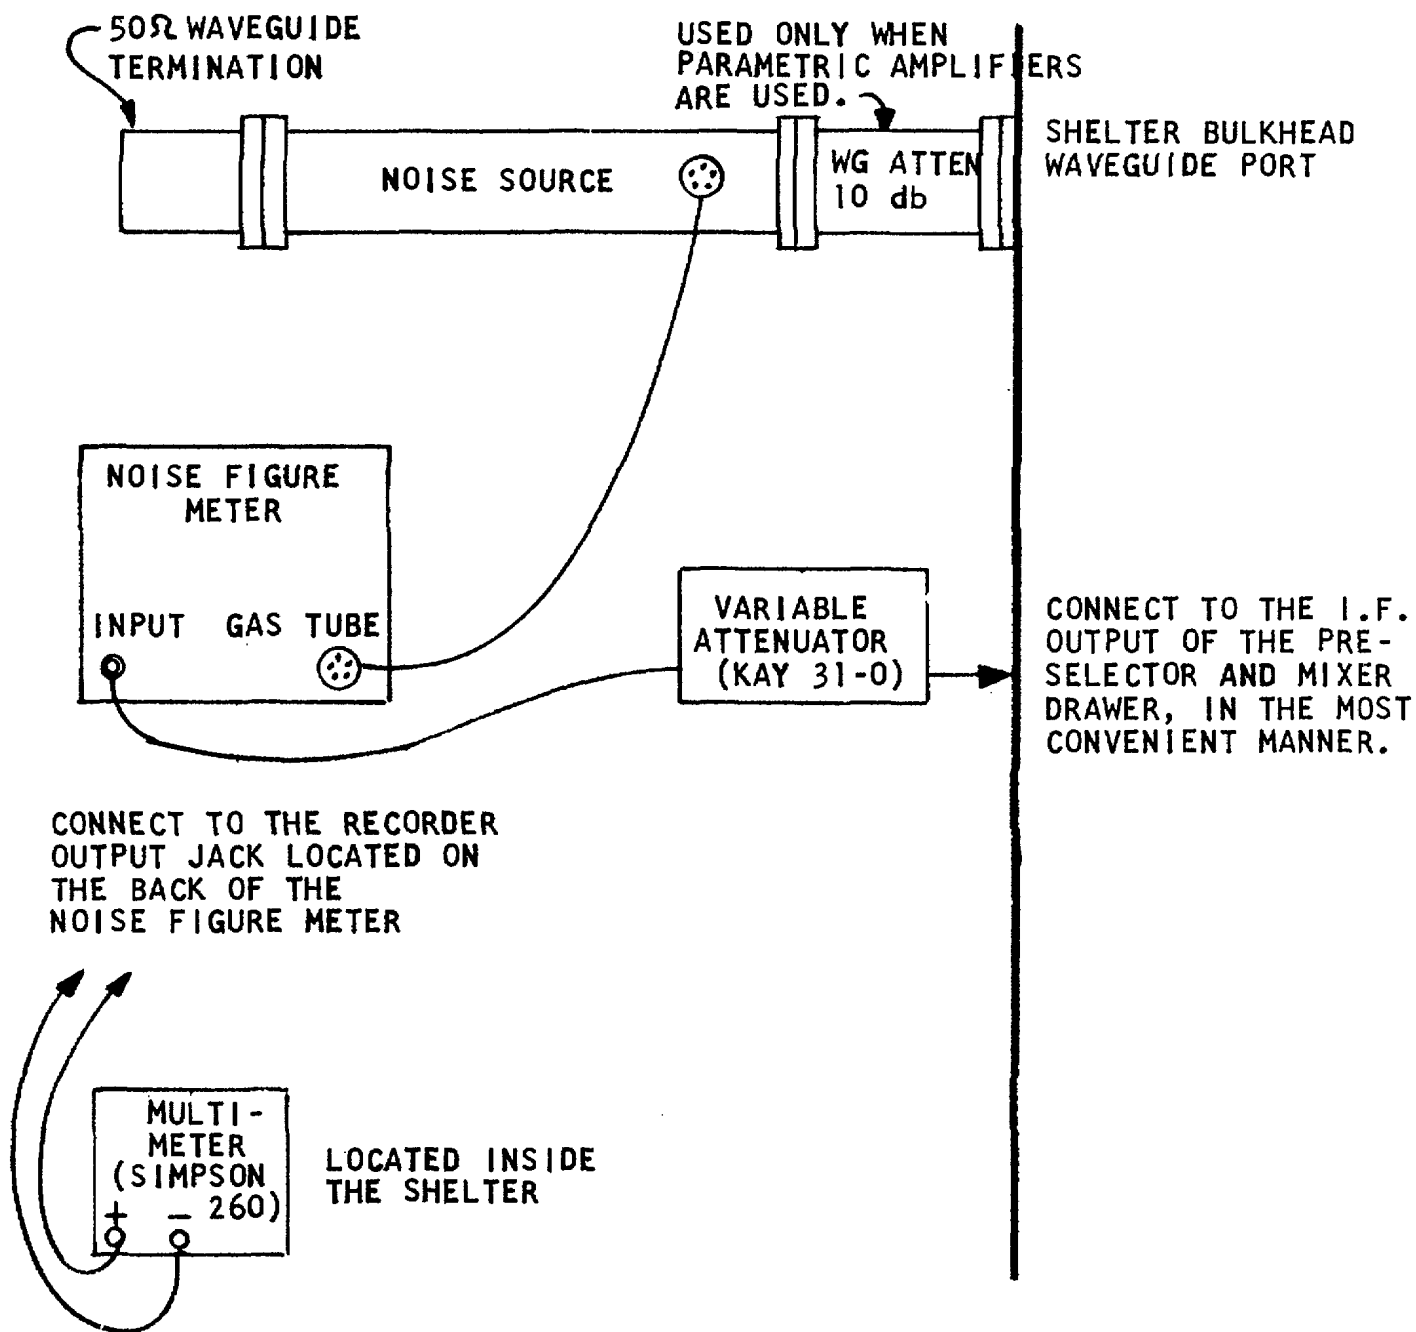

Figure 6-4. Receiver Preselector Adjustment Test Setup
- f. Set up the test equipment according to figure 6-4.